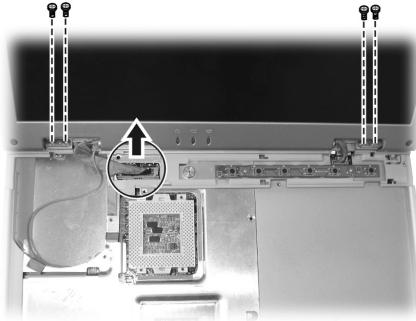

Figure 2-15
6. Disconnect the LCD cable from the system board, and remove four screws of the hinges. Now you can separate the LCD assembly from the base unit. (Figure 2-15)